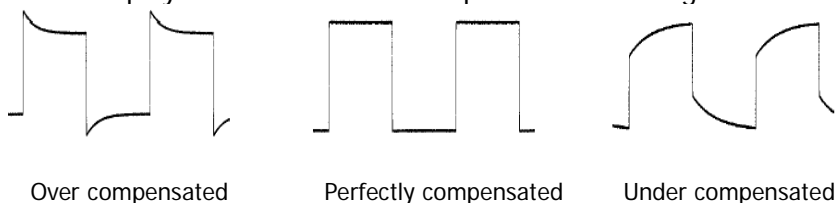

Figure 1-12 Probe Compensation
2. Check the displayed waveforms and compare them with Figure 1-12.